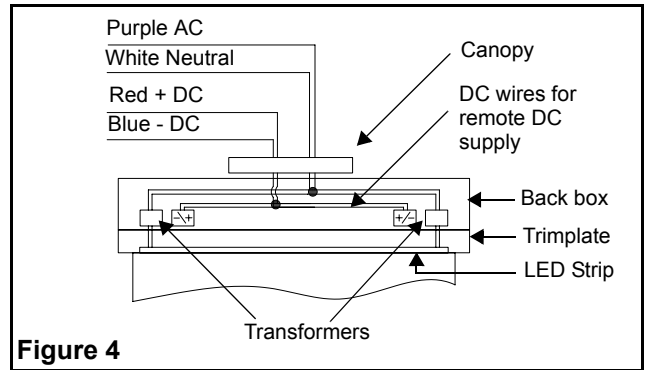

Figure 4
10. Make the proper connections. Our system can accept input voltages of 120 VAC to 347 VAC. Therefore, connect the purple (hot) and white (neutral) leads to the building utility (see fig. 4).
Refer to fig. 4 for AC & DC wiring. For DC portion: wire the Red lead (+) to the positive DC input voltage and the Blue Lead (-) to the negative DC input voltage. DC input voltage range is 6 volts to 48 volts.